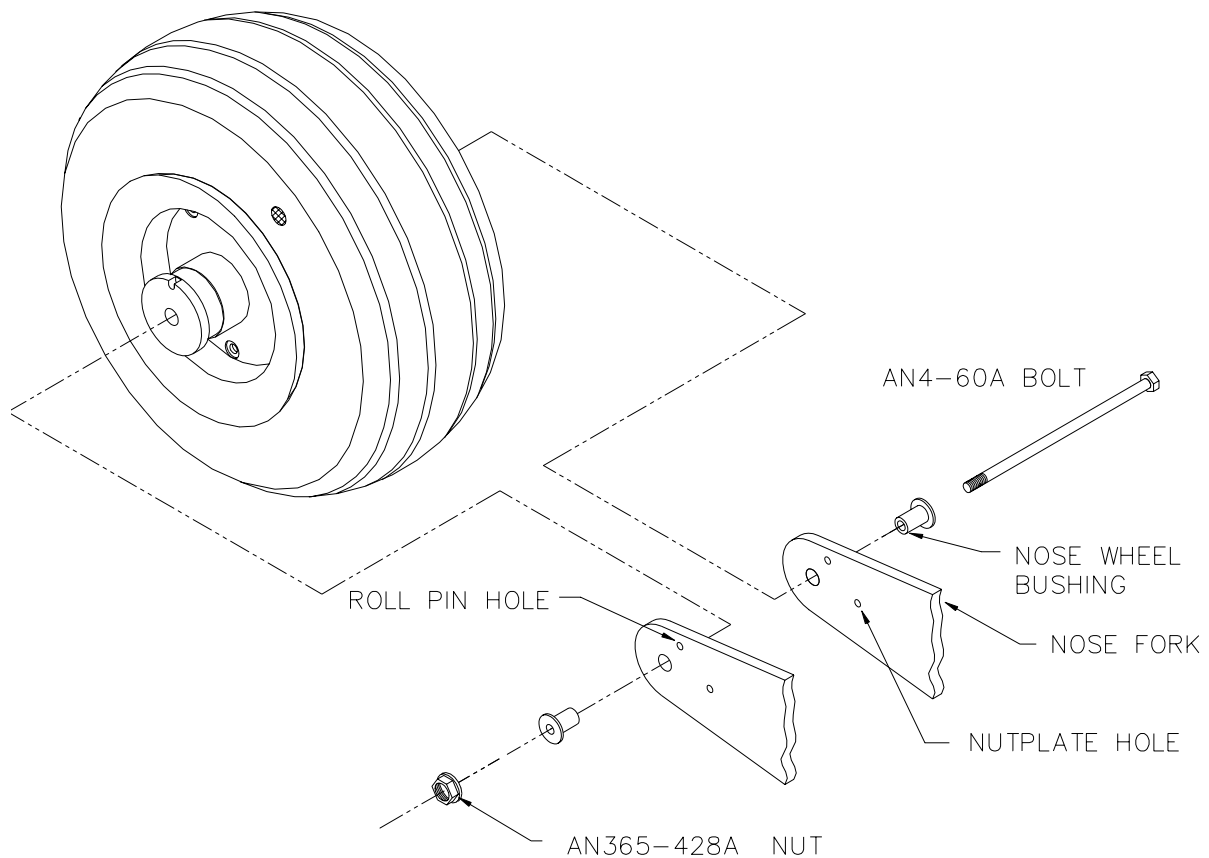

Figure 138: Installing the Nose Wheel Assembly
Now that the length of the axle is properly set, the wheel assembly can be installed on the nose fork assembly. Slide the entire wheel and axle assembly between the forks and from the outside of the fork insert a **nose wheel bushing** [216.06] thru the nose fork and the axle hub. Insert the **AN4-60A axle bolt** [216.07] thru the assembly and secure it with the **AN365-428A** nut as shown in Figure 138. Finally, insert the two other 3/16" x 1/2" **roll pins** through the fork and the axle hub.
diameter hole through each bracket and into the nose fork arms. Install (1) 1/8" diameter x 1/2" roll pin 450-0070-002 in each bracket. Figure 138 will be revised as follows: